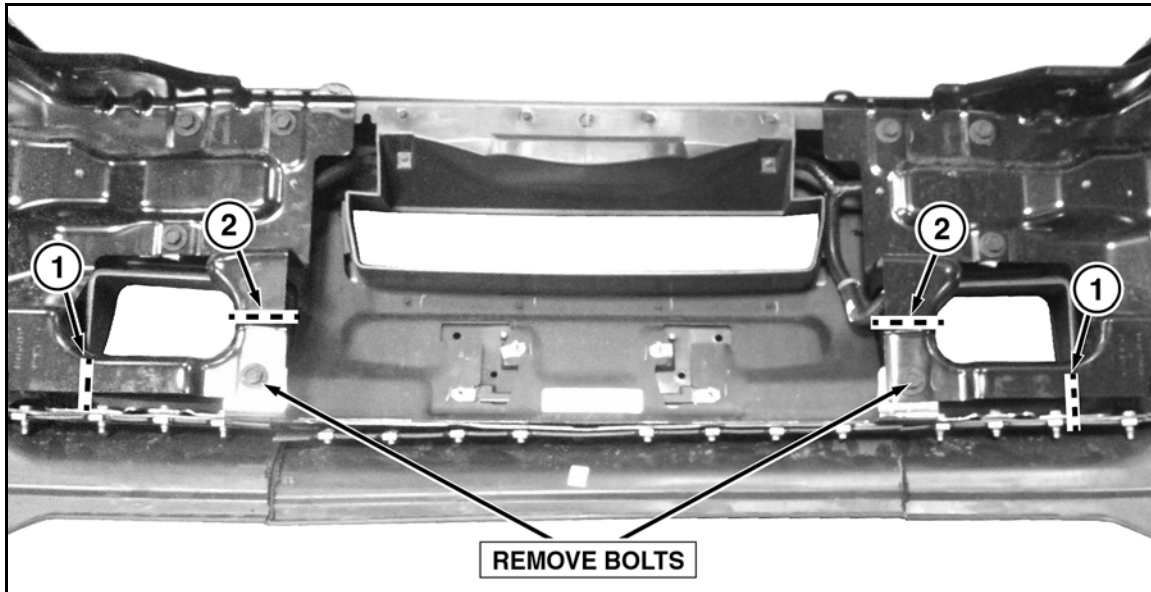

Figure 4
- A. Cut #1 at the bottom of the radius of the metal. (See Figure 4.)
- B. Cut #2 just above the horizontal bend, then remove the bolts holding the sections of metal in place. (See Figure 4.)